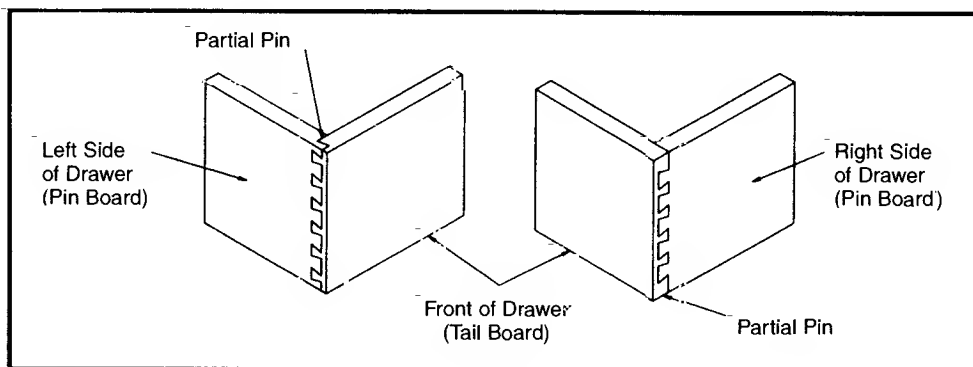

Fig. 12
9. Fig. 12 shows both the left and right corner of a drawer fitted together after they were both routed from the left end of the templet. Note the location of partial pins on drawer sides.